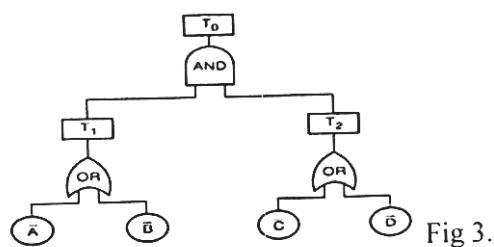

Fig 3.
c) The logic gate diagram for FTA has been shown in fig 3. The basic failure modes of A, B, C, and D have failure rates 0.002, 0.004, 0.005 and 0.008 per hour respectively. Find the failure rate of  $T_0$ . Assume a mission time of 100 hrs. [8]